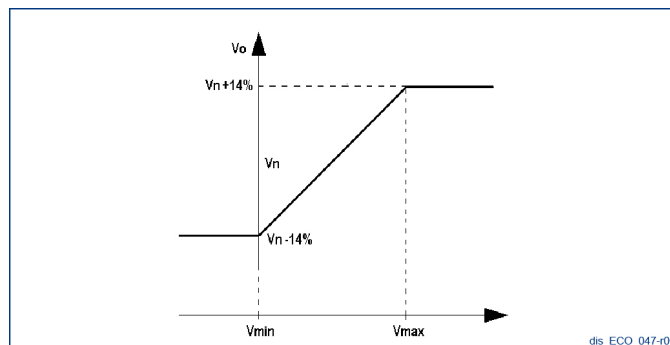

Figure 2: with saturation of the output voltage when the limits of the input voltage are reached.
- Maintain the minimum (or the maximum) reachable voltage value, fig. 2.